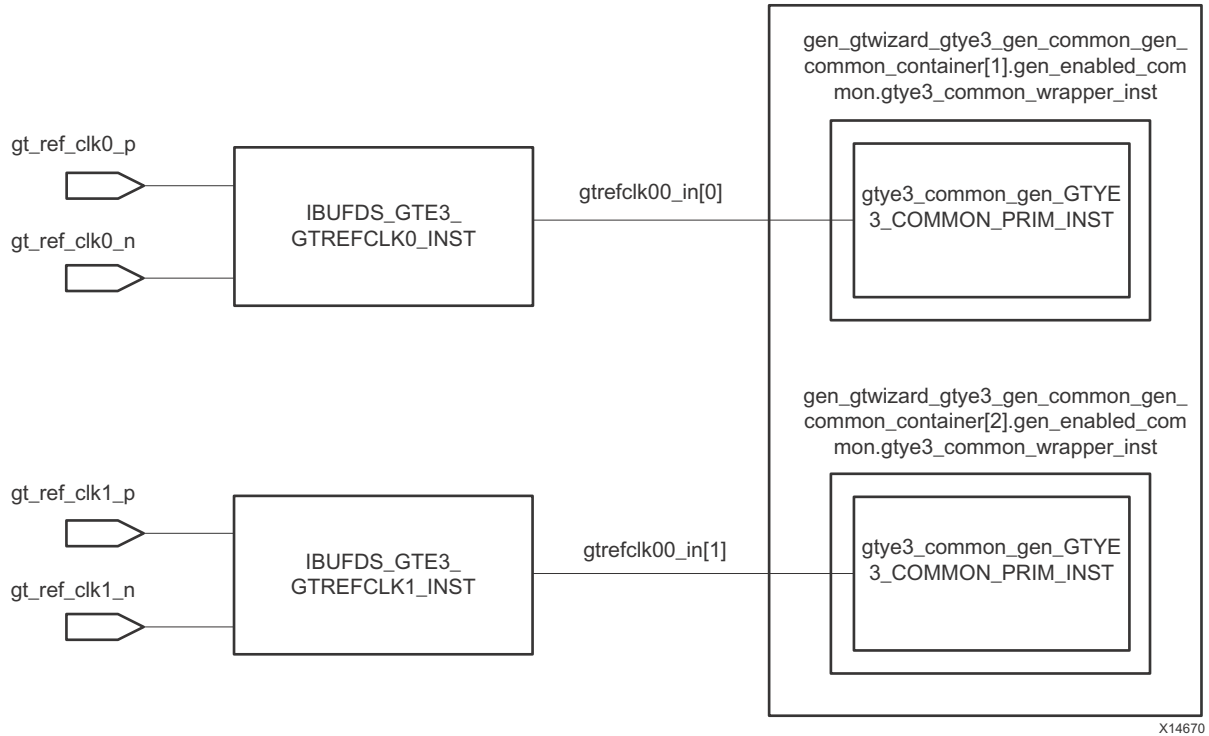

Figure 5-2: 25 Gb/s Reference Clock
- two pairs of *gt_ref_clk* pairs are available to drive the two IBUFDS, as shown in Figure 5-2.